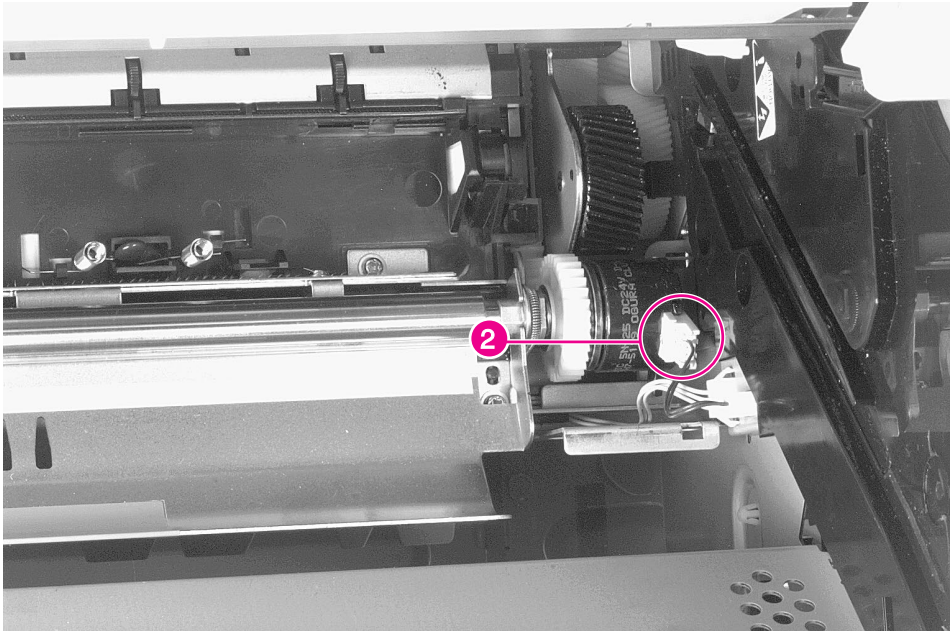

Figure 6-54 Registration Assembly (2 of 3)
- 5 Unplug the clutch cable from the clutch on the right end of the Registration Assembly (figure 6-54, callout 2).
- Registration Assembly (see figure 6-54 on page 222)